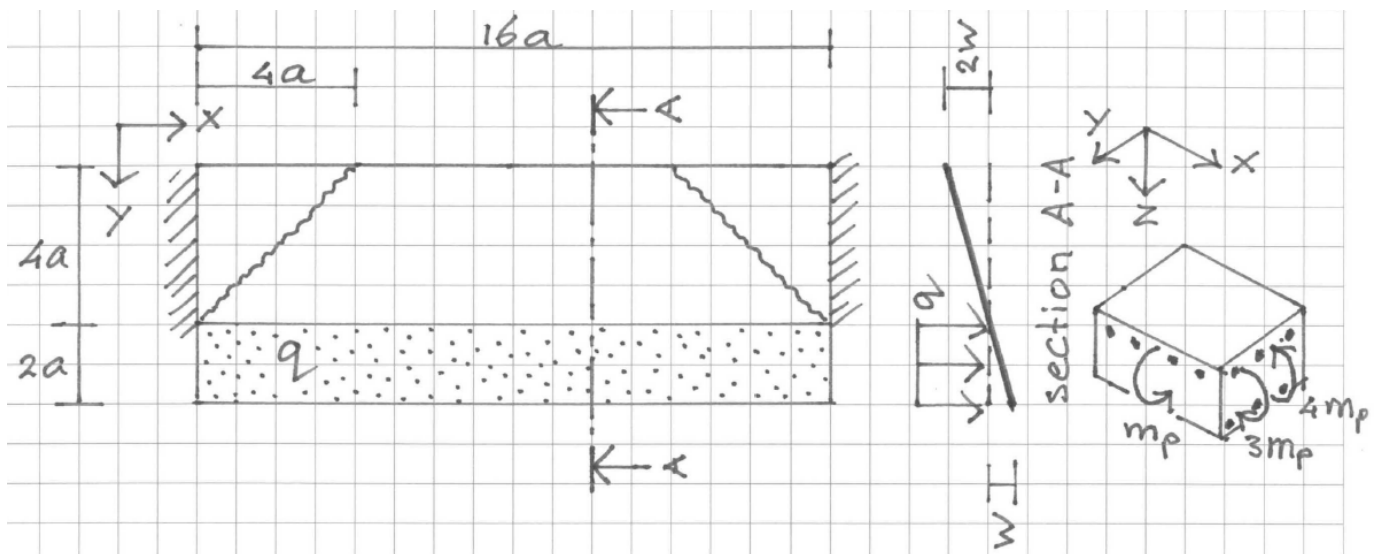

Figure 4. Plate dimensions and reinforcement
A reinforced concrete plate has two simply supported edges (Fig. 4). It carries an evenly distributed load q over half of the plate (shaded area). The plate is homogeneous and orthotropic.
- b** Consider the yield line pattern of Figure 4. Determine an upper bound for q expressed in m_p and a (1.5 point).